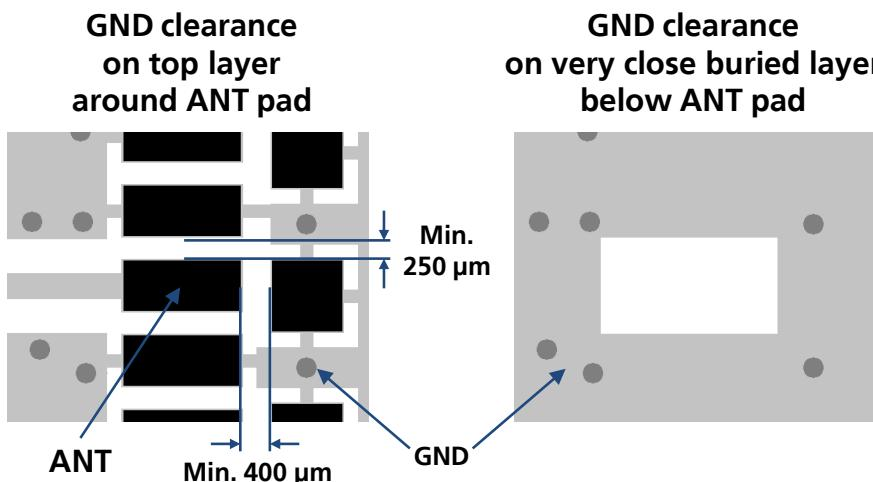

Figure 49: GND keep-out area on the top layer around ANT pad and on the very close buried layer below ANT pad
- Increase GND keep-out (i.e. clearance, a void area) around the **ANT** pad, on the top layer of the application PCB, to at least 250 µm up to adjacent pads metal definition and up to 400 µm on the area below the module, to reduce parasitic capacitance to ground, as described in the left picture in Figure 49
- Add GND keep-out (i.e. clearance, a void area) on the buried metal layer below the **ANT** pad if the top-layer to buried layer dielectric thickness is below 200 µm, to reduce parasitic capacitance to ground, as described in the right picture in Figure 49